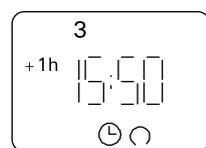

Figure 18.
4. A fourth push **returns** the manual control to the real time display mode, thus activating the program timings recorded in the timer's memory. (Fig. 18)
**PLEASE NOTE! Switching on the heater at any time other than when the program timings have been recorded should be done by means of the manual switch (3) on the control unit (C260VKK), as it is very easy to do so and it also avoids the above-mentioned problem of the locking functions remaining on.**